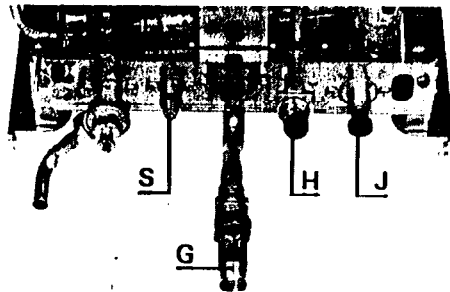

Fig. 2
- 1) Switch on the electricity supply and ensure the gas (see G, Fig. 2) is turned on.
This boiler is designed to give hot water at constant temperature and is fitted with a water regulator screw (S) (Fig. 2). This regulator is adjusted and set at the time of installation by the installer.
- Switch to "hot water only" and close the valve (J) (Fig. 2) on the heating flow.